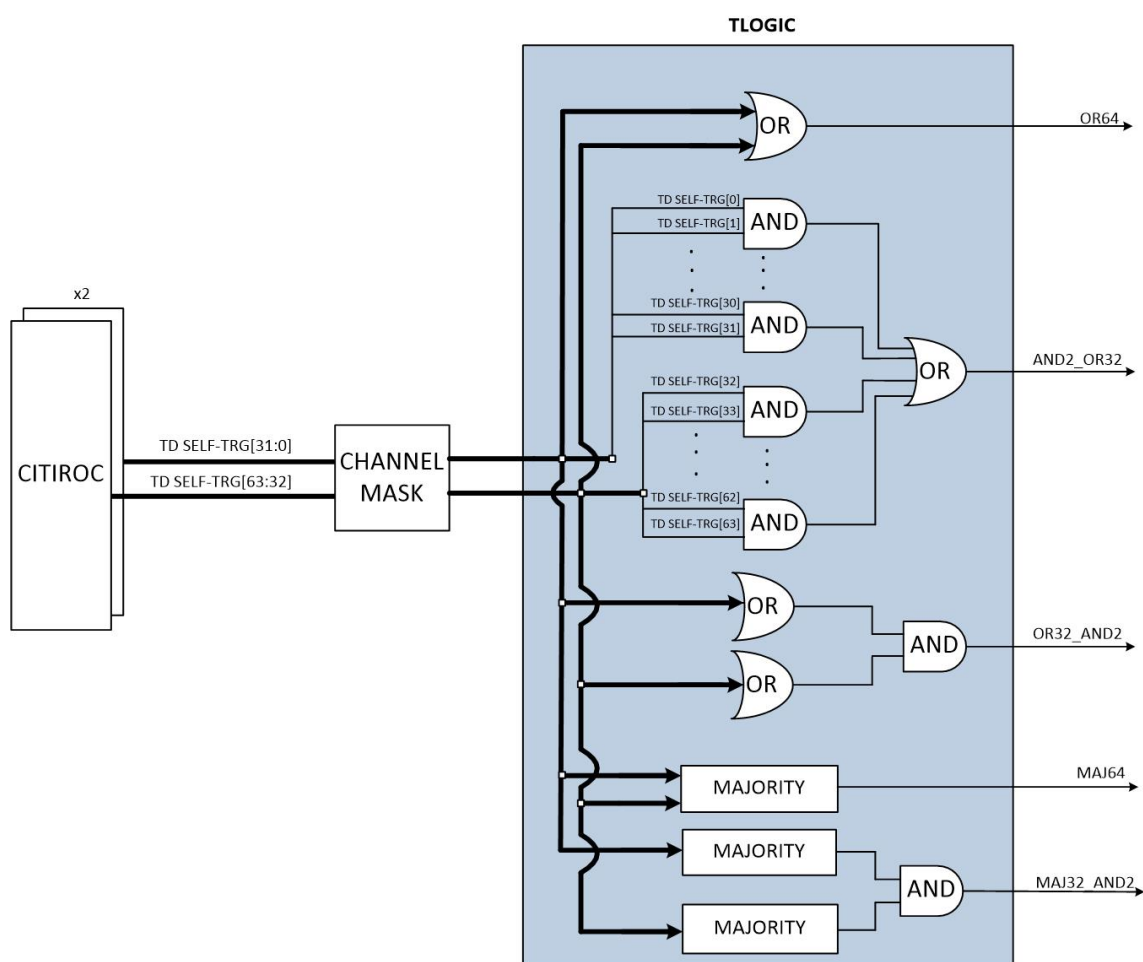

Fig. 8.9: TLogic signal block diagram.
- Bunch Trigger.** A bunch (i.e. global) trigger signal directed to all channels (64) of the board. The Bunch Trigger is used for two purposes:
- TLogic.** A logic signal generated by the combination of the channel self-triggers from the TD line. As explained in Sec. 8.1.3, each channel can generate a TD self-trigger signal when the pulse from the Fast Shaper crosses a configurable threshold. The self-triggers of each channel are then processed at firmware level in order to create a TLogic trigger signal. The self-triggers coming from different channels can be masked, so that the user can define which channels participate to the logic definition. The logic functions associated to the TLogic signal (see Fig. 8.9) are: